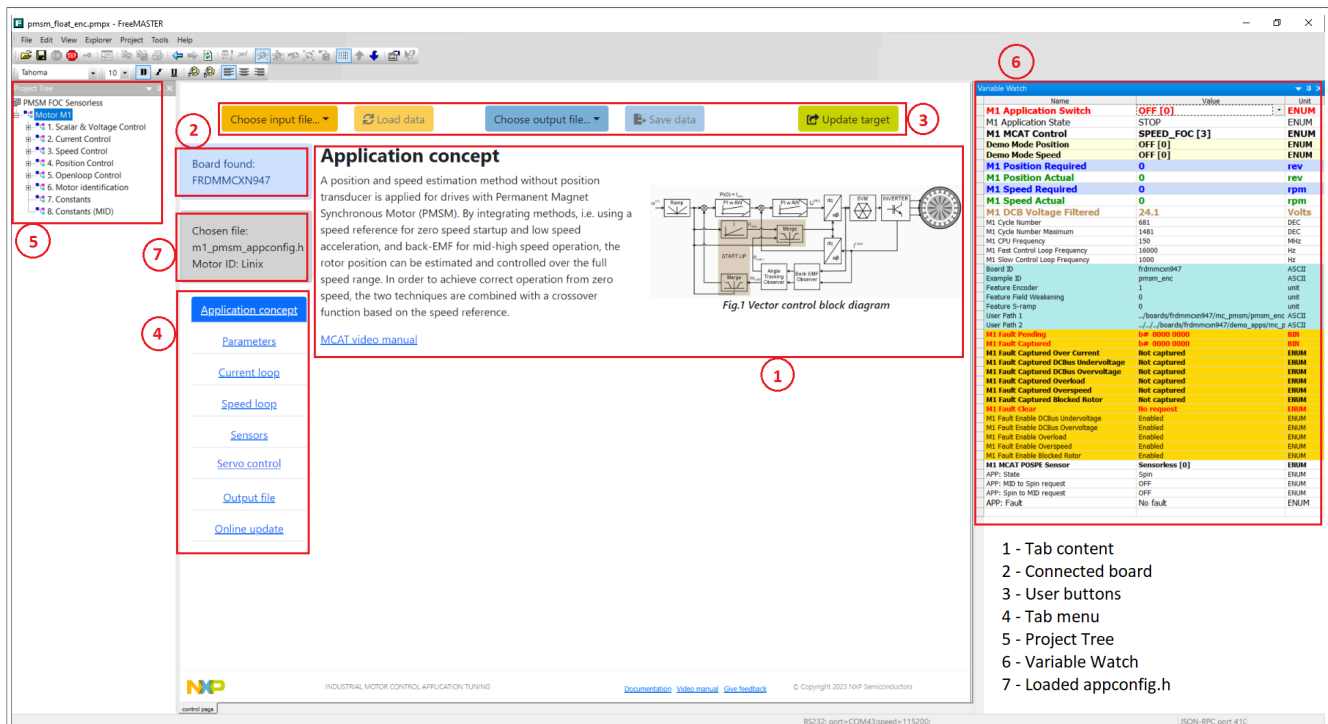

Figure 17. FreeMASTER + MCAT layout
The PMSM sensor/sensorless FOC application can be easily controlled and tuned using the Motor Control Application Tuning \(MCAT\) plug-in for PMSM. The MCAT for PMSM is a user-friendly page, which runs within the FreeMASTER. The tool consists of the tab menu and workspace as shown in Figure 17. Each tab from the tab menu (4) represents one submodule which enables tuning or controlling different application aspects. Besides the MCAT page for PMSM, several scopes, recorders, and variables in the project tree (5) are predefined in the FreeMASTER project file to further the motor parameter tuning and debugging simplify.